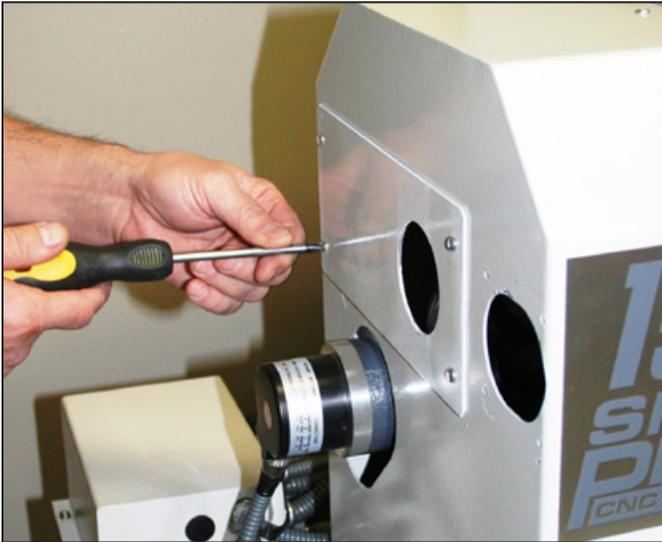

Figure 1
1. Remove four Phillips-head screws securing panel to belt guard (see **Figure 1**); set aside for future use.